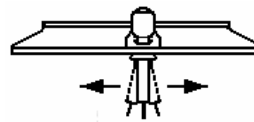

FIG 1
- After removing the venturi, the burner base can be lifted out of the main top. Disconnect the wire (J) from the igniters. Lay aside the burner base on a working surface.
- Remove the igniter by moving back and forth, walking the igniter out of the clip. (Fig 1)